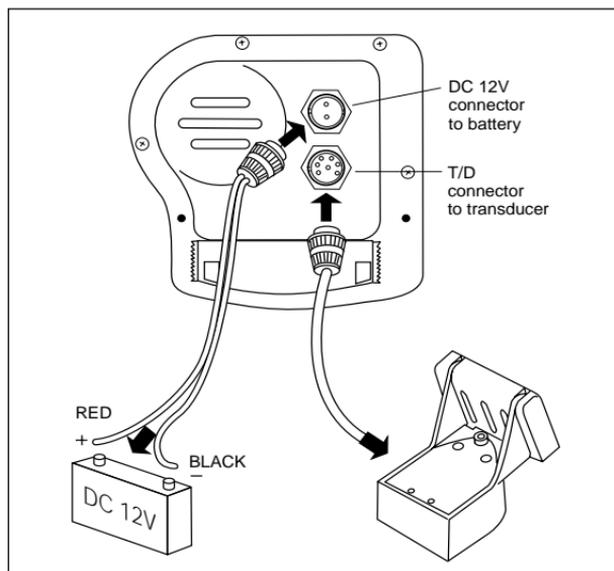

Fig. 2-15
3. It is very important that you connect the power leads correctly. See Fig. 2-15. At the power source, connect the **red** wire to the **positive** terminal (+), and the **black** wire to the **negative** terminal (-). The negative terminal may also be called “ground” or “earth.” (The display unit is internally protected if you accidentally reverse the polarity of the power wires.)